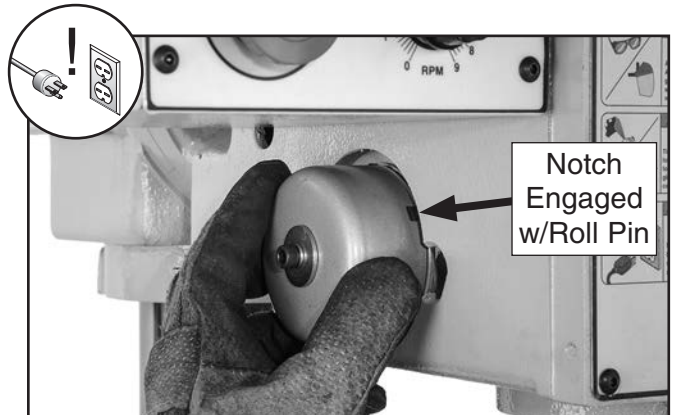

Figure 74. Adjusting spring tension by rotating spring cover to engage next notch with roll pin.
4. Wearing heavy leather gloves, pull spring cover out enough so notches just clear roll pin (see **Figure 74**). HOLD SPRING COVER TIGHTLY during this step, or force of spring will cause cover to spin out of your hands.
5. Rotate cover counterclockwise to increase tension, then push cover back in to engage roll pin with one of the notches, as shown in **Figure 74**, then retighten cap screw.